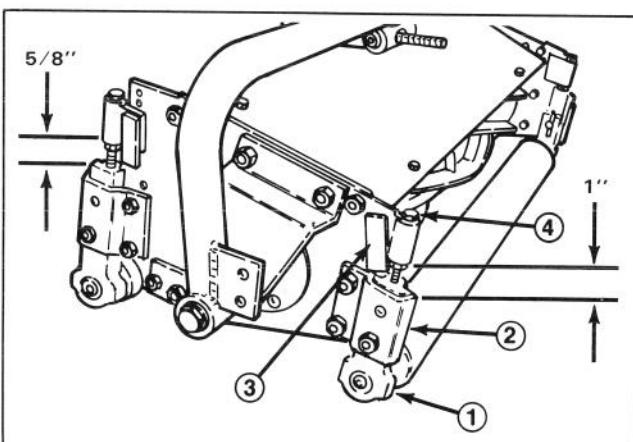

Figure 6
LEVEL REAR ROLLER (Fig. 6)
- Slightly loosen (crack) nut securing each roller bracket to angle bracket (Fig. 6).
- Adjust support capscrew to achieve $1'' \pm 1/16$ dimension between Height-of-Cut support and *front* roller bracket (2 places) (Fig. 6).
- Adjust support capscrew to achieve $5/8'' \pm 1/16$ dimension between Height-of-Cut support and *rear* roller bracket (2 places) (Fig. 6).